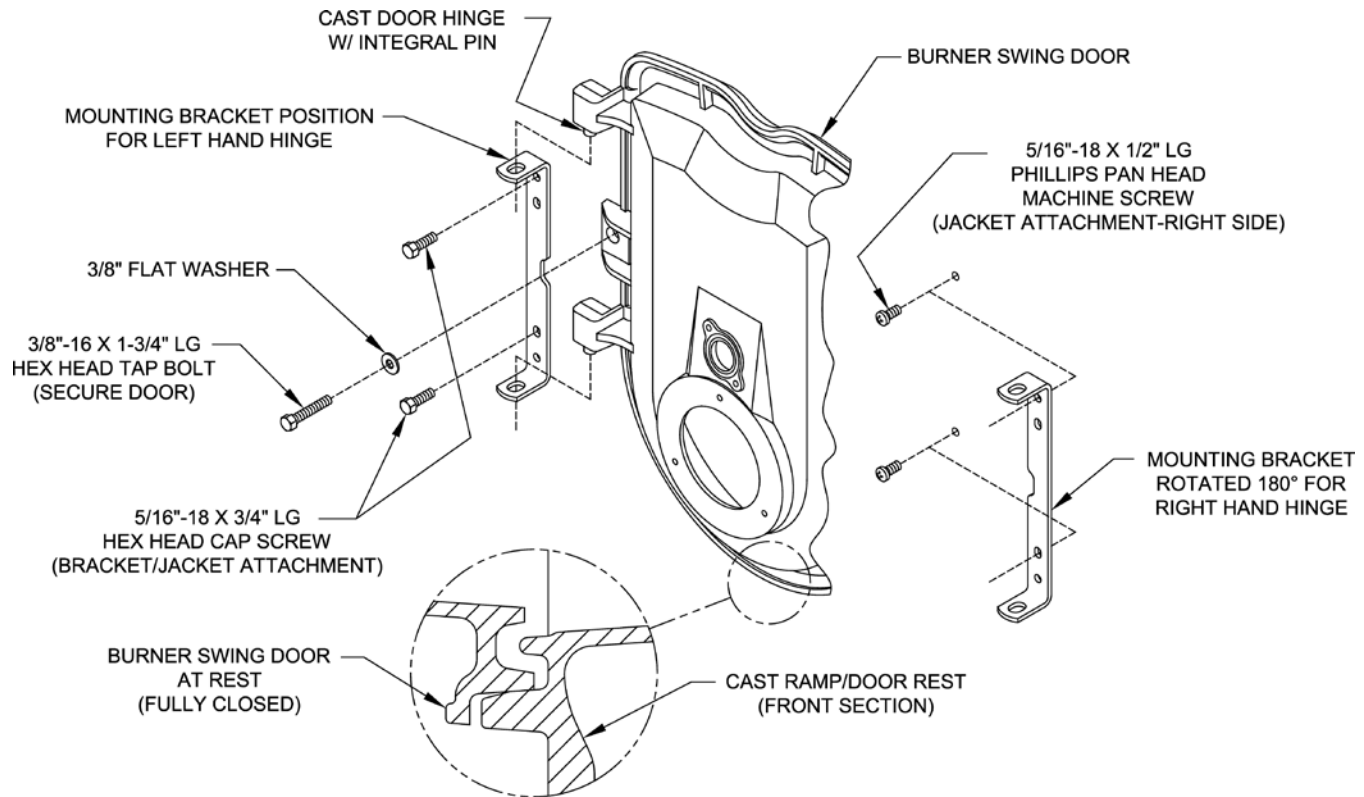

Figure 4A: Partial Front View - Burner Swing Door Mounted to Boiler - Fully Closed and Secured
1. TO OPEN BURNER SWING DOOR (see Figures 4A and 4B).
To reverse hinge arrangement (see Figure 4A):
3. TO CLOSE BURNER SWING DOOR (see Figures 4A and 4B):
Step 2. If necessary, place your right hand under the burner air tube to lift upward. Lift the door up unto the built-in cast ramp/door rest (protruding from the bottom of the front section casting - see Figure 4A).